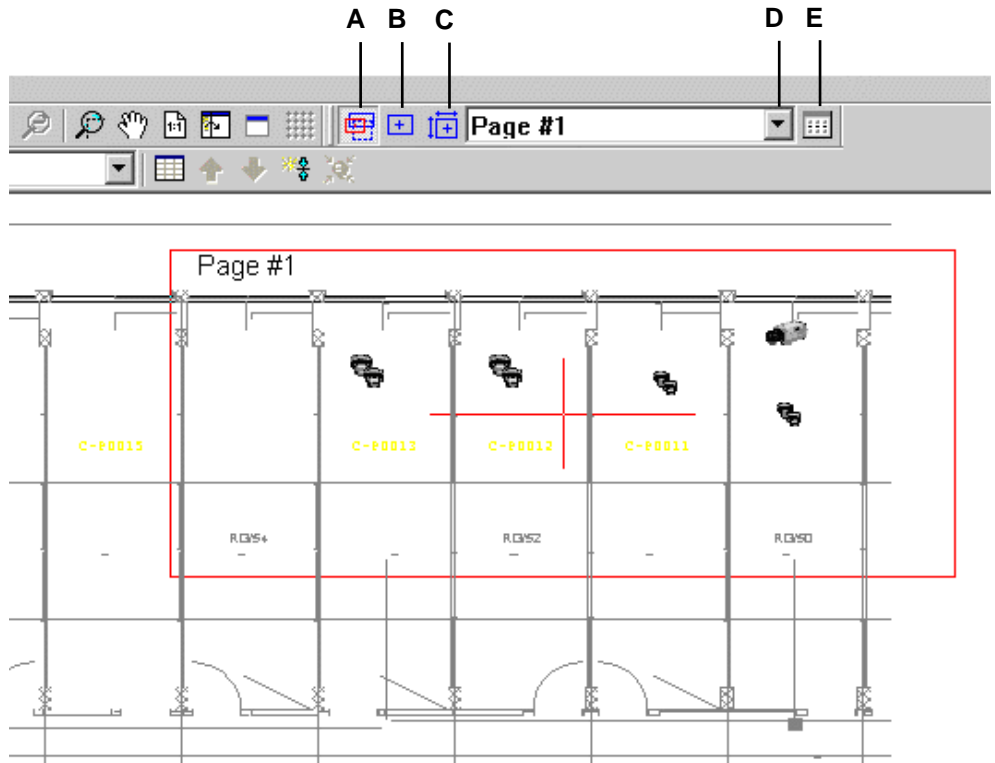

Fig. 23 Manually creating pages
2. Click the Toggle page icon to open page mode. (See “A” in Fig. 23.)
Select the Create icon (see “B” and “C” in Fig. 23.), and then select an area on the page by dragging the red rectangle.
- Click the Open list icon to display the list of configured pages. (See “E” in Fig. 23.)